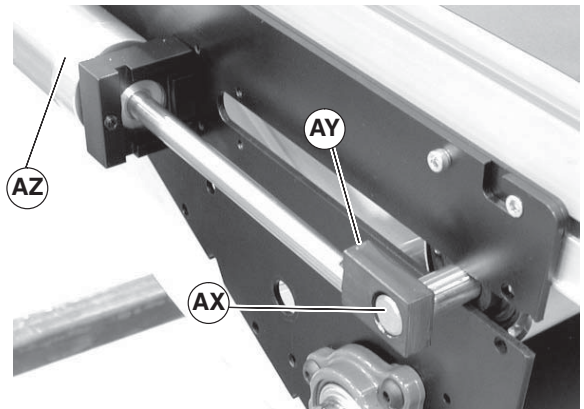

Figure 65
6. Push shaft (Figure 65, item AX) through block (AY) on opposite side of center drive, slide block toward air cylinder (AZ).